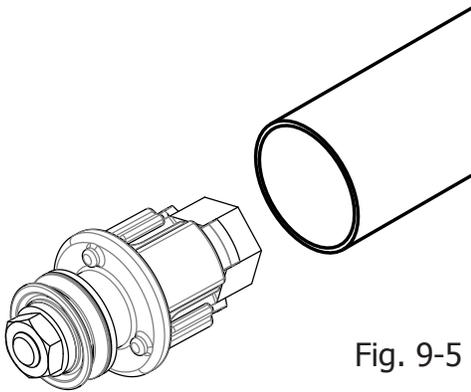

Fig. 9-5
**9-5:** Slide one pole end into the end of one 12-foot pole assembly, as shown in Fig. 9-5. Check that the pole end is inserted completely into the pole assembly.